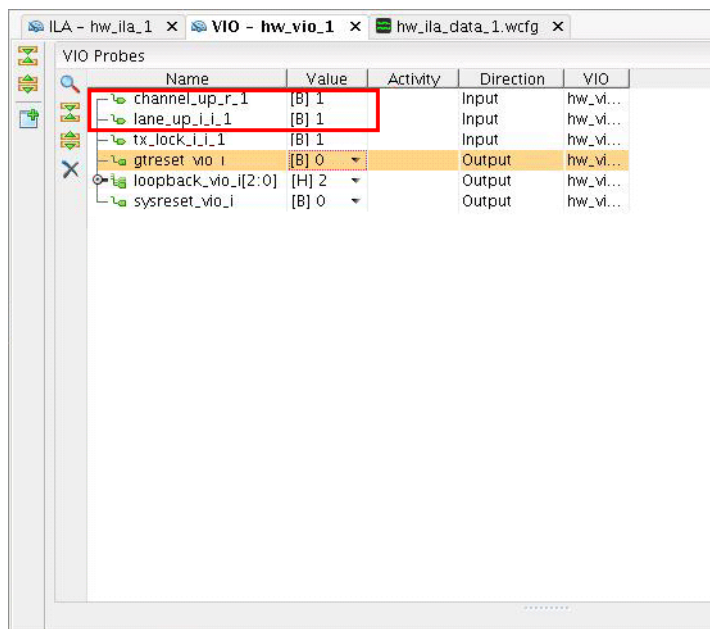

Figure 35: Four Lane HW-VIO Output
9. Using the method in step 5 and step 6, toggle the `gtreset_vio_i` and `sysreset_vio_i` signals and observe that the `lane_up_i_i_1` and `channel_up_r_1` signals go Low, then return High after each reset signal is toggled (see Figure 35).